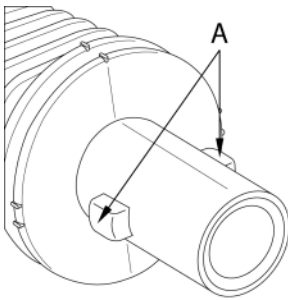
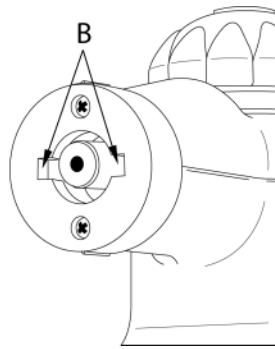

FIGURE 1
FIGURE 2
1. Insert cylinder on back of Steam Jet Nozzle (FIGURE 1) into hole on face of main unit (FIGURE 2). Insert it so that two tabs on sides of cylinder (FIGURE 1-A) fit into two tab holes on sides of main hole (FIGURE 2-B). Be sure to push Steam Jet Nozzle in as far as possible.